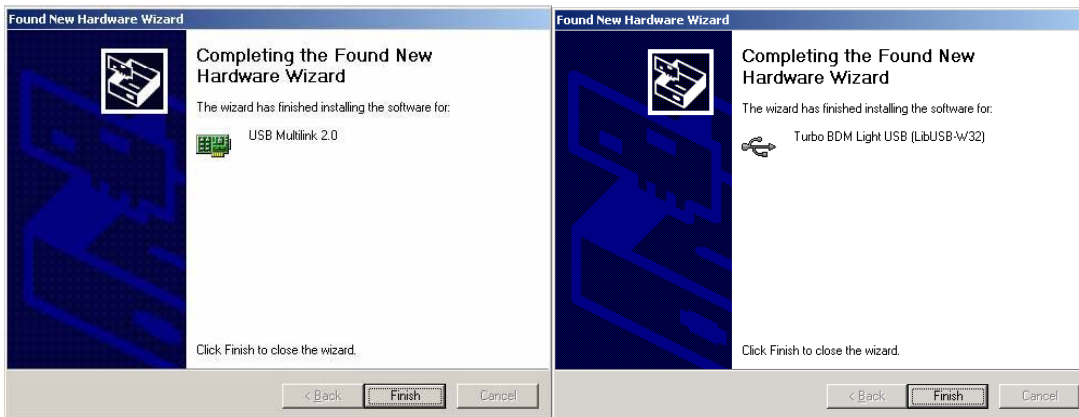

Figure 8. Found New Hardware Wizard (Screen 3)
5) Successful installation is verified by Found New Hardware (Screen 3) illustrated by Figure 8. Click Finish to complete installation and close the wizard.